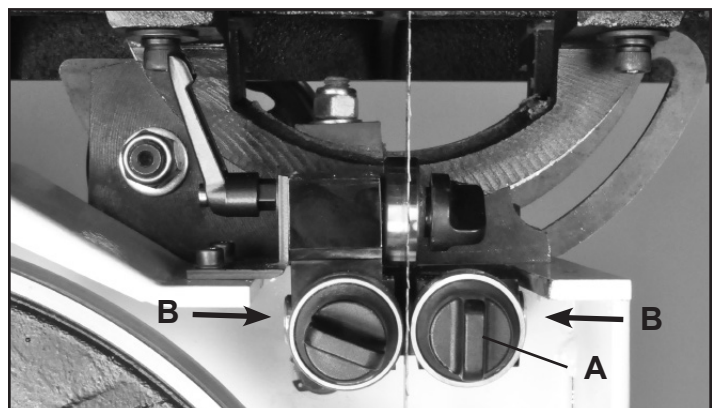

FIGURE 25 NOTE: Blade Guard removed for photo purposes
1. Position the right and left roller guides close to the blade. Loosen the front Lock Handles (#38A, Fig. 25, A). Move the guides towards the blade by pushing the ends of the Guide Shafts (#42A, B), or use the front lock handles to pull the guides towards the blade. Lock the guides in place. Fig. 25.